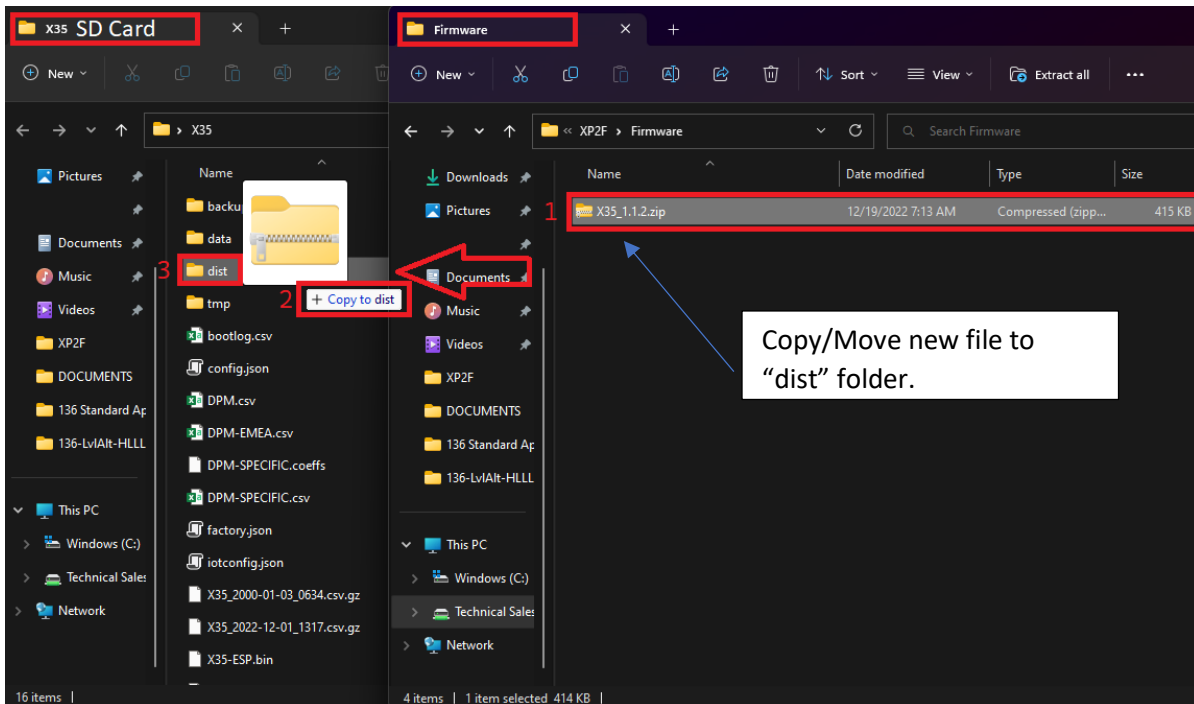

Figure 4.44
1. Insert the SD card into your PC and locate the Root directory shown in **FIGURE 4.44**.